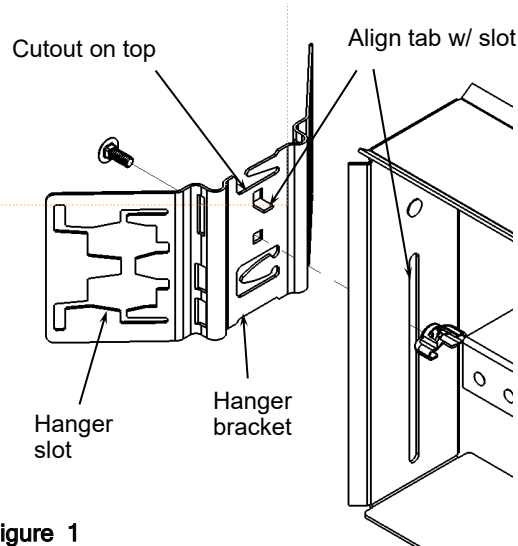

Figure 1
1. Unpack hanger brackets and mounting hardware. Insert #10 square shoulder carriage bolt through square cutout in mounting bracket and align mounting bracket tab and carriage bolt with slot in housing. Secure into position with #10 wing nut from inside of housing. (See Figure 1).